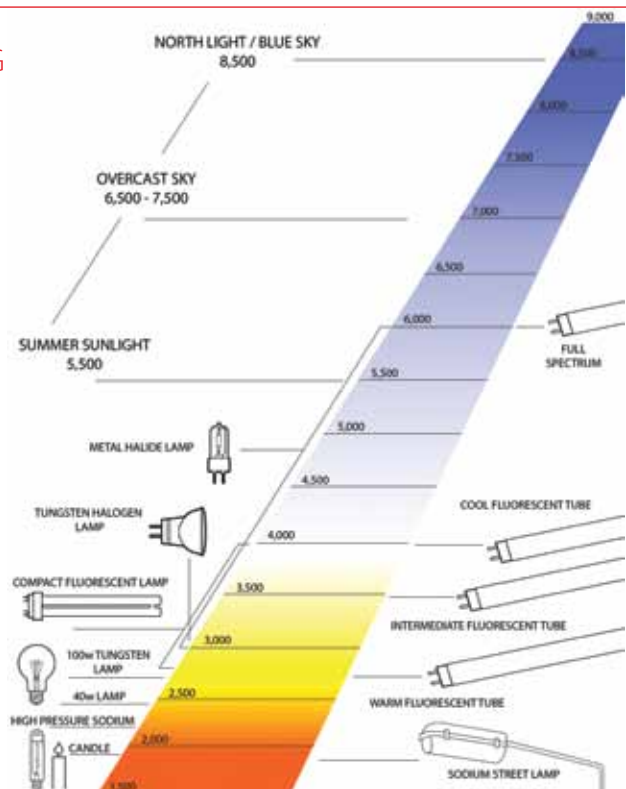

Fig.1 Colour temperature (K) of various light sources.
Colour appearance as illustrated in Figure 1, defines a lamp's 'whiteness' and is measured on the Kelvin temperature scale (K). A colour temperature of less than 3,500 K is 'warm'; a colour temperature of 3,500 K is mid-white; and a colour temperature of 4,000 K and above is 'cooler'. 'Cooler' whites can provide better clarity in fast moving games such as squash, while 'warmer' whites can be used for sports which are less physically demanding.